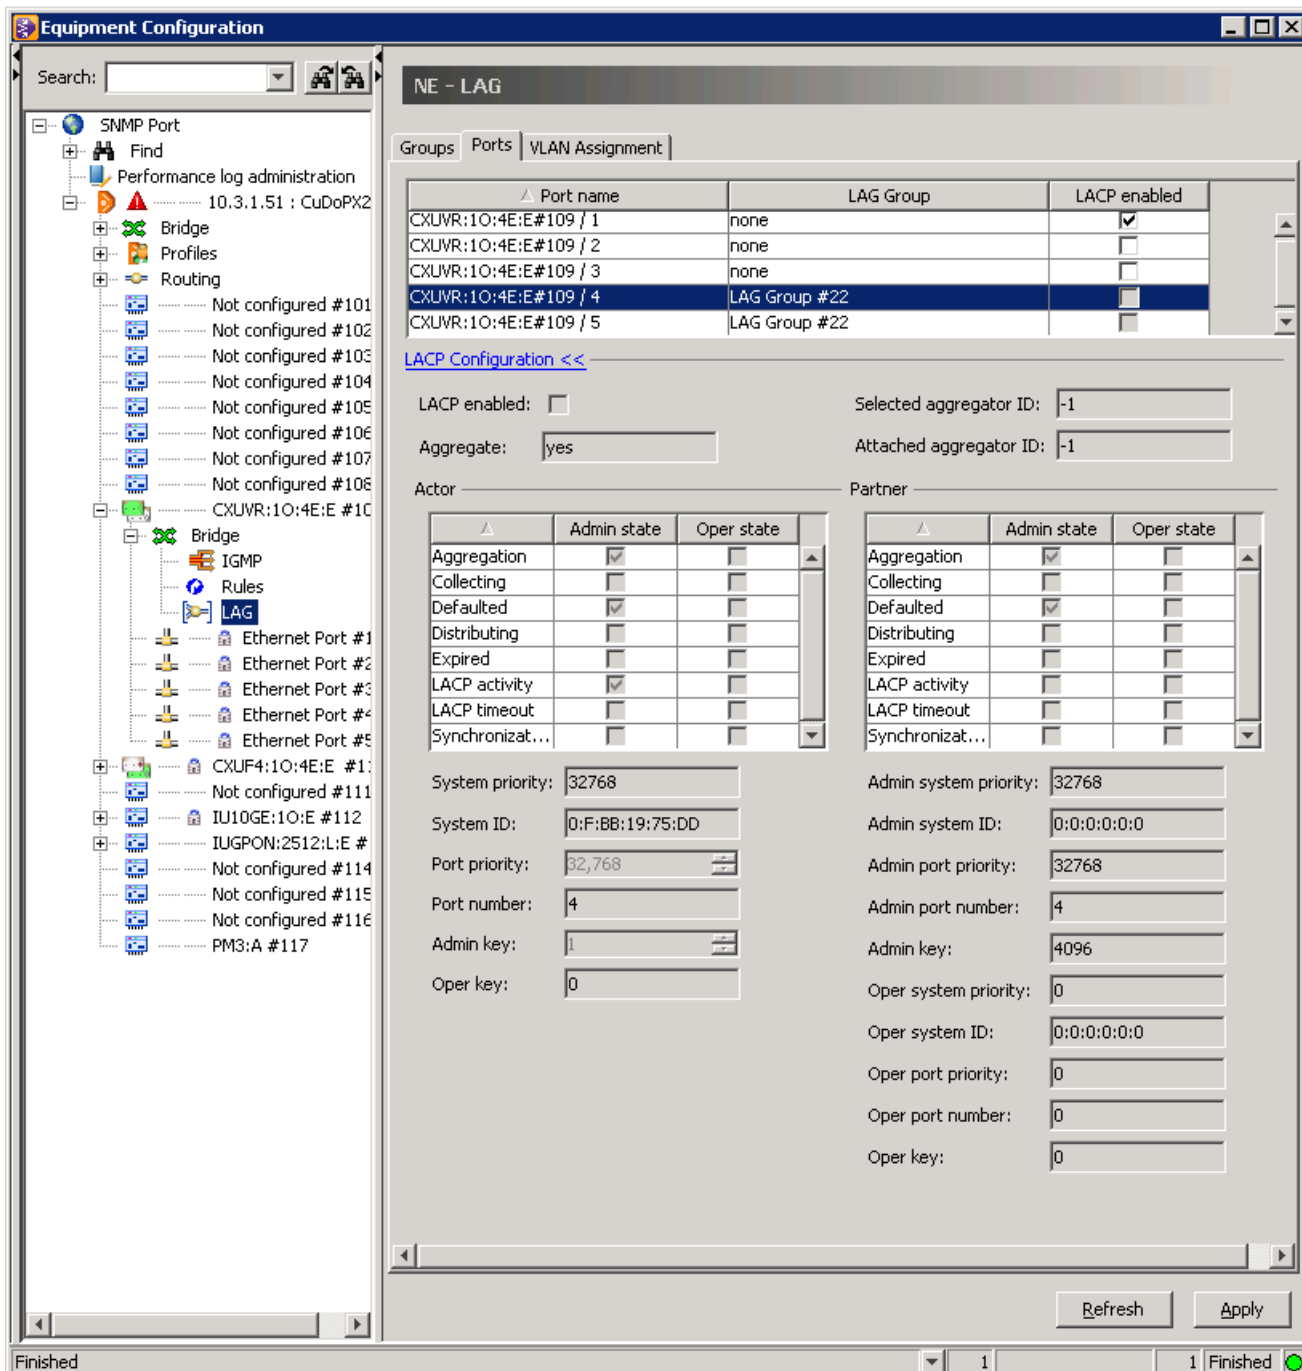

Figure 74 LAG Port
1. Click the **"Ports"** tab (see Figure 74) to enable LACP per port.